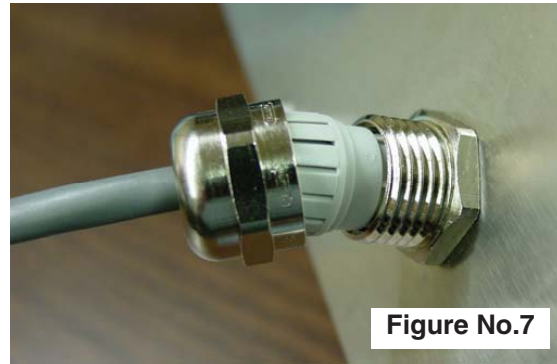

Figure No.7
12. The shield wire is secured when tightening the gland connector nut. See Figure No. 7.